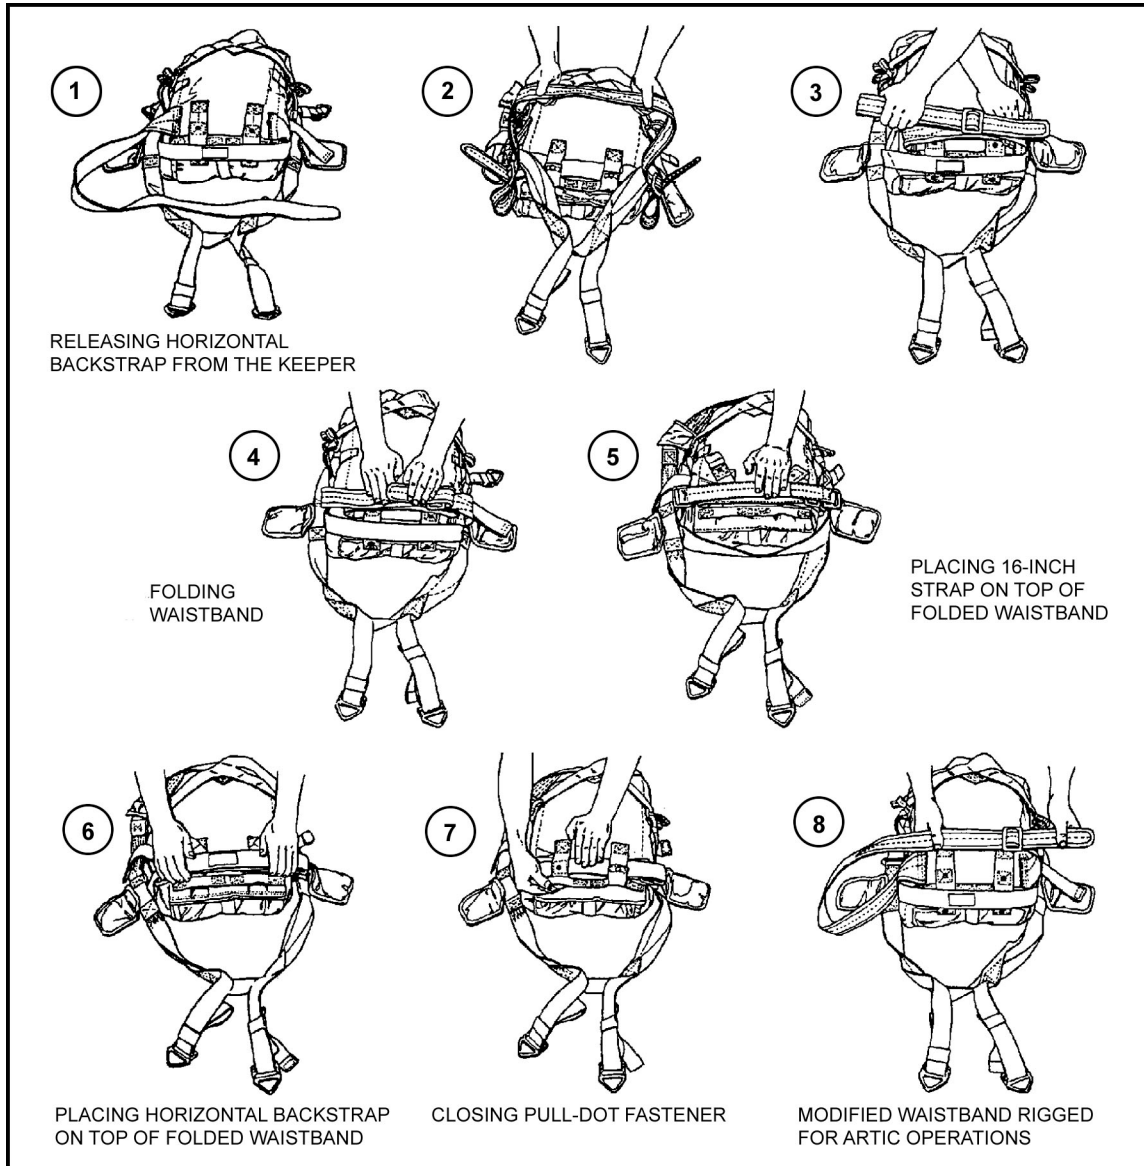

Figure 13-1. Modified waistband routed on parachute harness.
a. **Waistband.** A modified waistband strap is used in lieu of the standard waistband when parachuting with snowshoes or skis. The strap consists of two pieces: a 6-foot A-7A strap and a 16-inch strap with a buckle at each end. The skis or snowshoes are attached to the side of the jumper opposite the static line (to prevent fouling). The modified waistband allows the buckle for the quick-release fold to be located on the same (either) side with the snowshoes or skis (Figure 13-1). Tandem loads are dropped on a single lowering line. Rigging or lowering procedures are contained in this chapter. Under arctic conditions, most individual equipment is lowered during descent due to the weight.